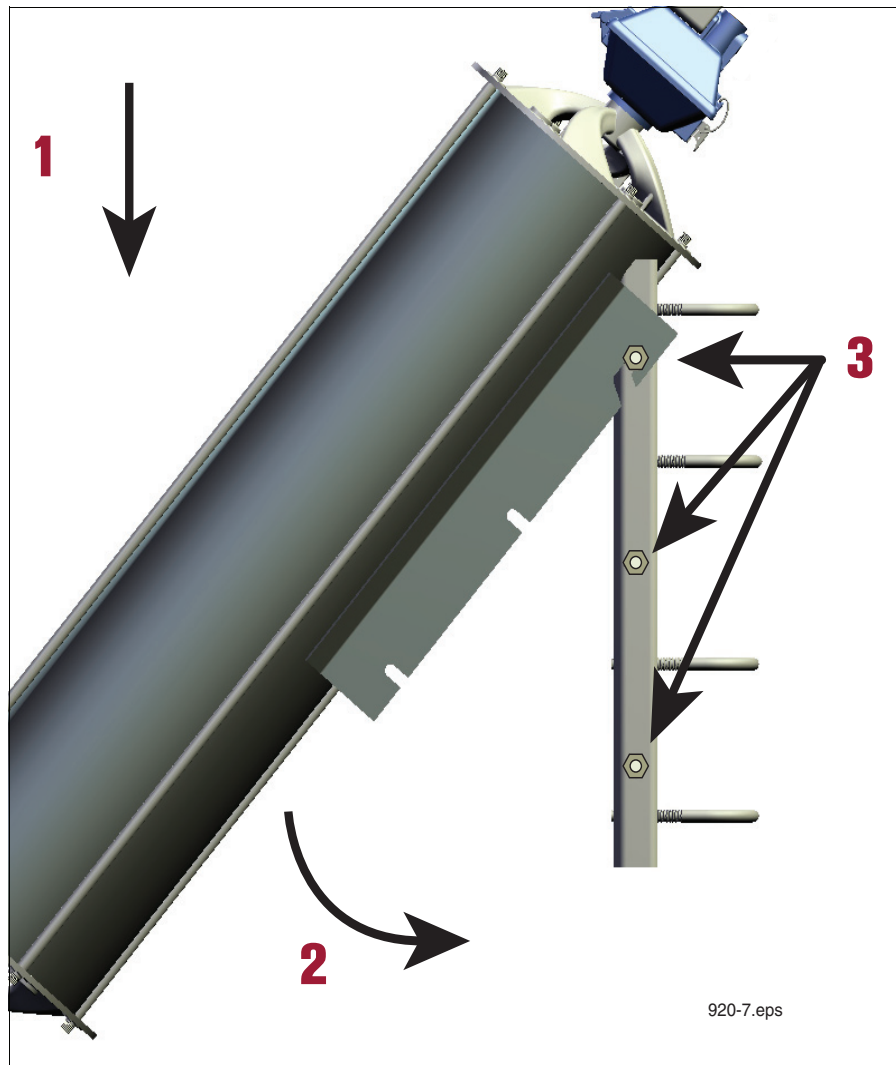

Figure 2. Installing CCVP onto bracket
7. Following all required national, state, local and site safety precautions, carefully hang the CCVP's notched support tabs onto the top two side studs of its mounting bracket (Step 1 in Figure 2), swing the canister down until all of the slots in the canister's side mounting tabs seat against the studs in the bracket (Step 2 in Figure 2), then tighten the six side nuts to secure the canister onto its bracket (Step 3 in Figure 2).